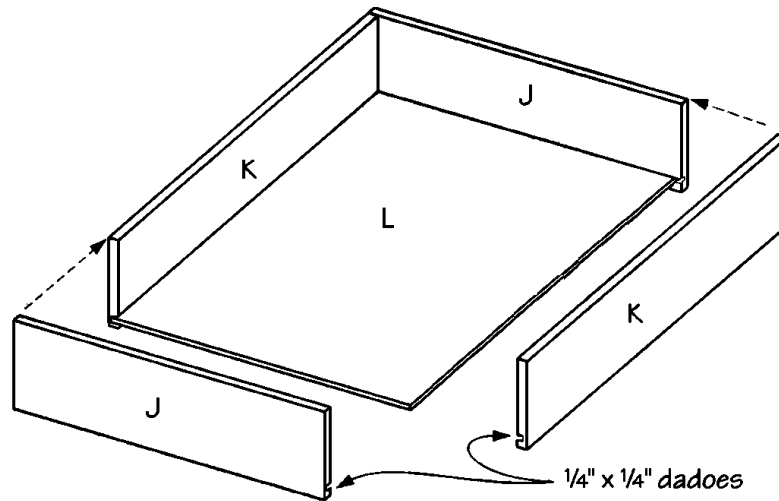

Figure 8
- There are two drawers in this desk. Both are constructed as shown in the assembly diagram in *Figure 8*. The only difference is the size of the drawer pieces.
- Cut two upper drawer front/back pieces (J) from 1/2-inch plywood, each measuring 4- 1/2 x 15-1/2 inches.
- Cut two upper drawer sides (K) from 1/2-inch plywood, each measuring 4-1/2 x 23 inches.
- Cut two drawer bottoms (L) from 1/4-inch plywood, measuring 14-7/8 x 23-7/8 inches.
- Assemble the upper drawer as shown in *Figure 8*. Note that the upper drawer front/back pieces (J) overlap the ends of the upper drawer sides (K). Use three 1-1/2" (4d) finishing nails on each end of the overlapping boards. The drawer front will be added later.
- Cut two lower drawer front/back pieces (M) from 1/2-inch plywood, each measuring 10 x 15-1/2 inches.
- 35 Cut two lower drawer sides (N) from 1/2-inch plywood, each measuring 10 x 23 inches.
- Repeat the drawer assembly in Step 6 using the remaining drawer bottom (L), the lower drawer fronts (M), and the lower drawer sides (N).